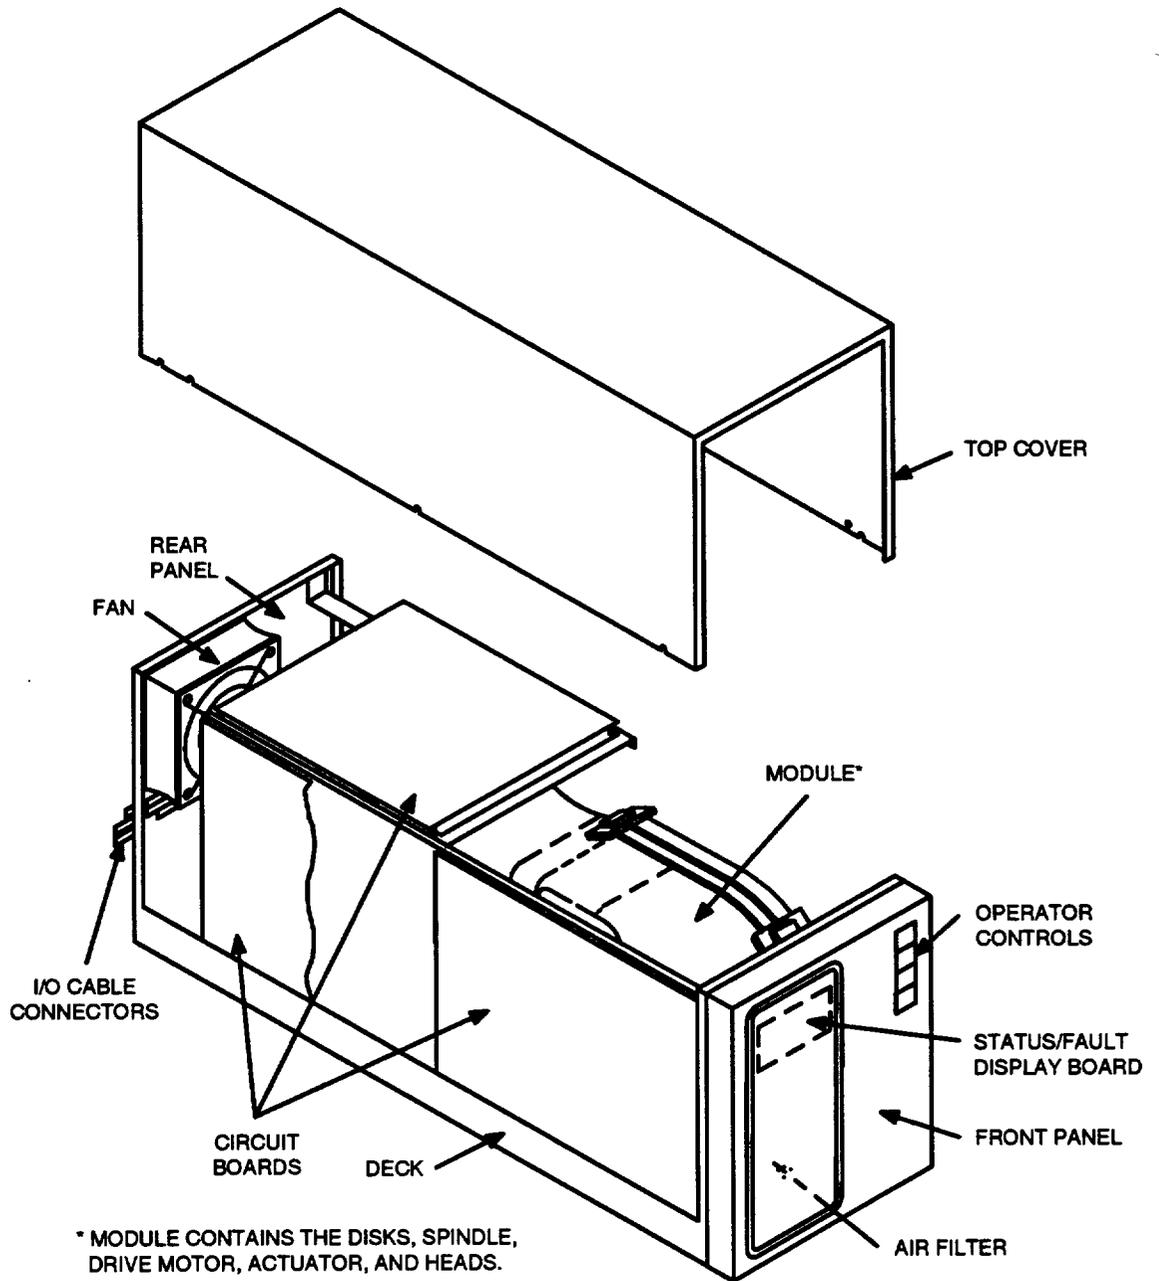

Figure 4. FSD Assemblies
2.08 The three major assemblies that make up an FSD are the module assembly, frame assembly, and the front panel. Figure 4 shows these assemblies.